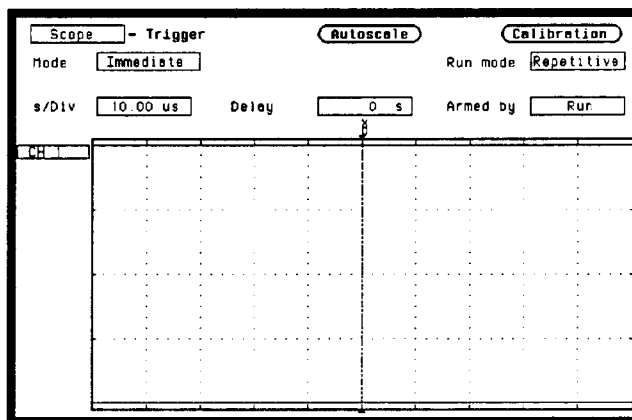

Figure 3-47. Trigger Menu Configuration
7. Press the TRACE/TRIG key and set the Mode to **Immediate** and Run mode to **Repetitive** as in figure 3-47.